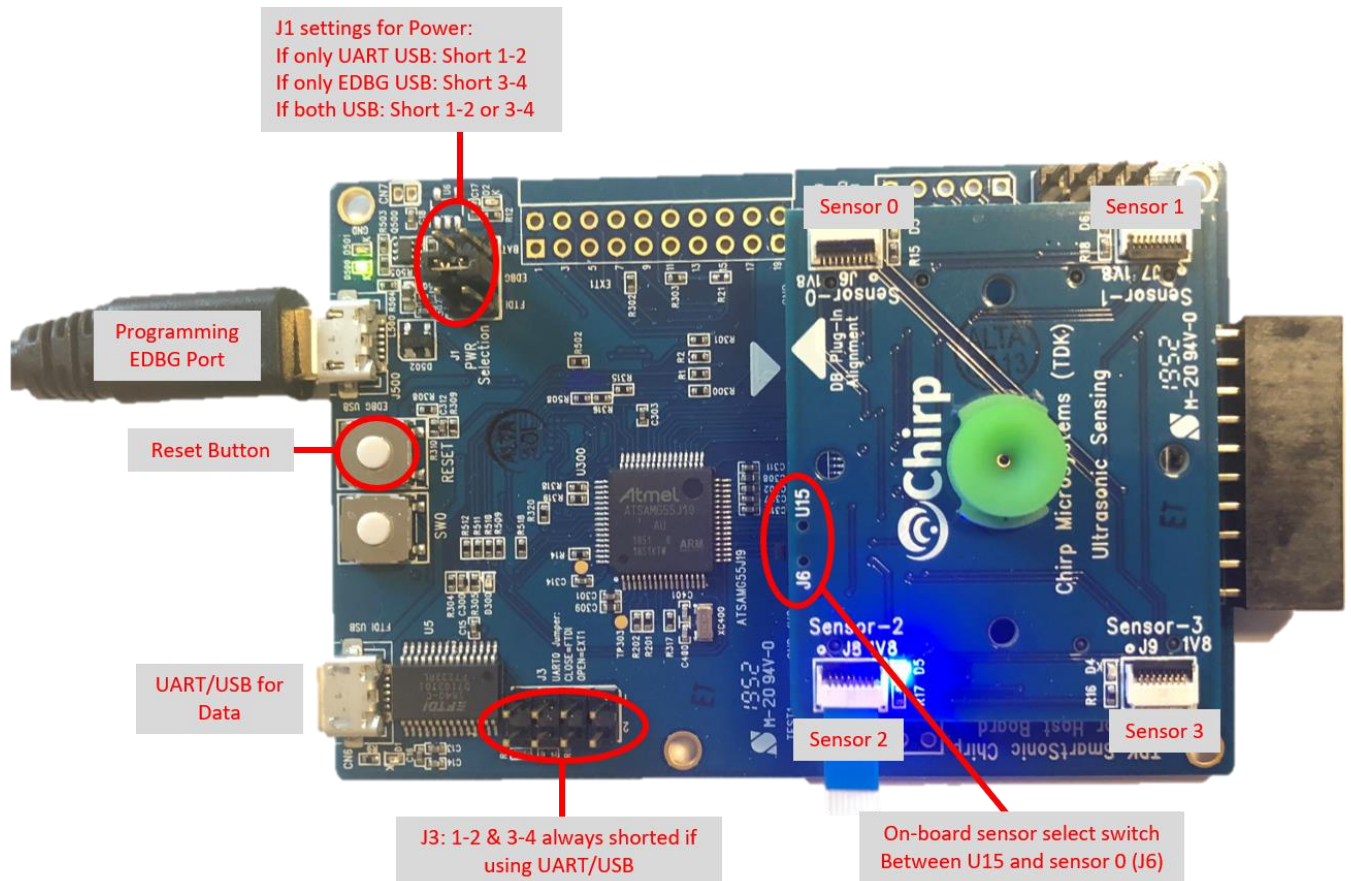

Figure 1. SmartSonic with CH201 Daughterboard
6. Connect the SmartSonic board to a Windows PC with the USB cable. Configure the jumpers on the board as shown in Figure 1 with J1 in EDBG USB mode (short 3-4).
1. Set up SmartSonic board Jumper J1 as in Figure 1.